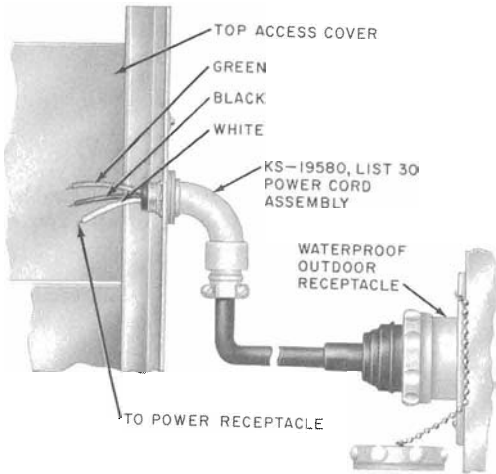

Fig. 22—KS-19580, List 30 Power Cord
**3.15** Bring overhead power into an outdoor booth with a KS-19580, List 30 power cord assembly (Fig. 22).